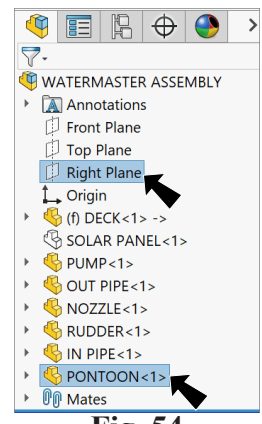

Fig. 54
Step 2. **Ctrl click Right Plane**  and **Pontoon**  in the Feature Manager to select both, **Fig. 54**.